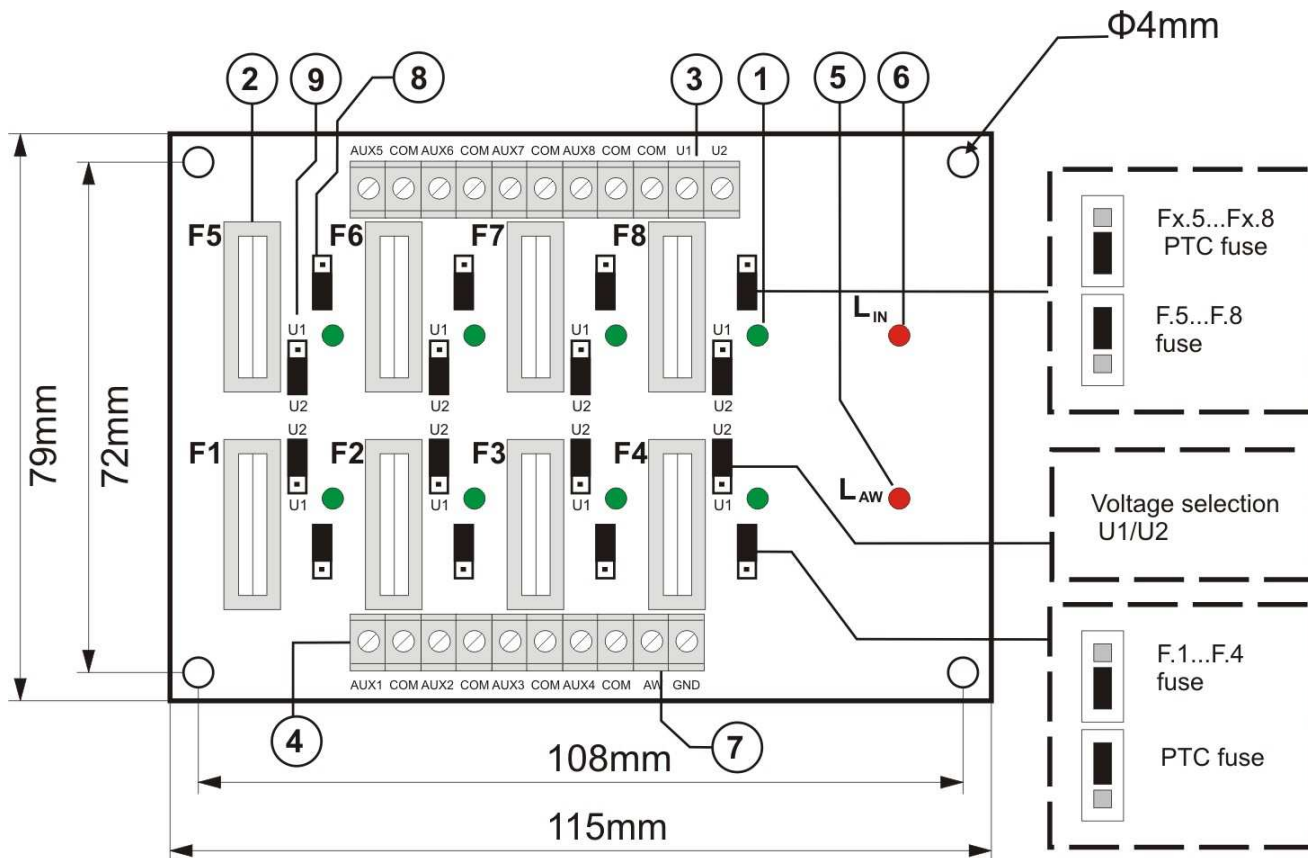
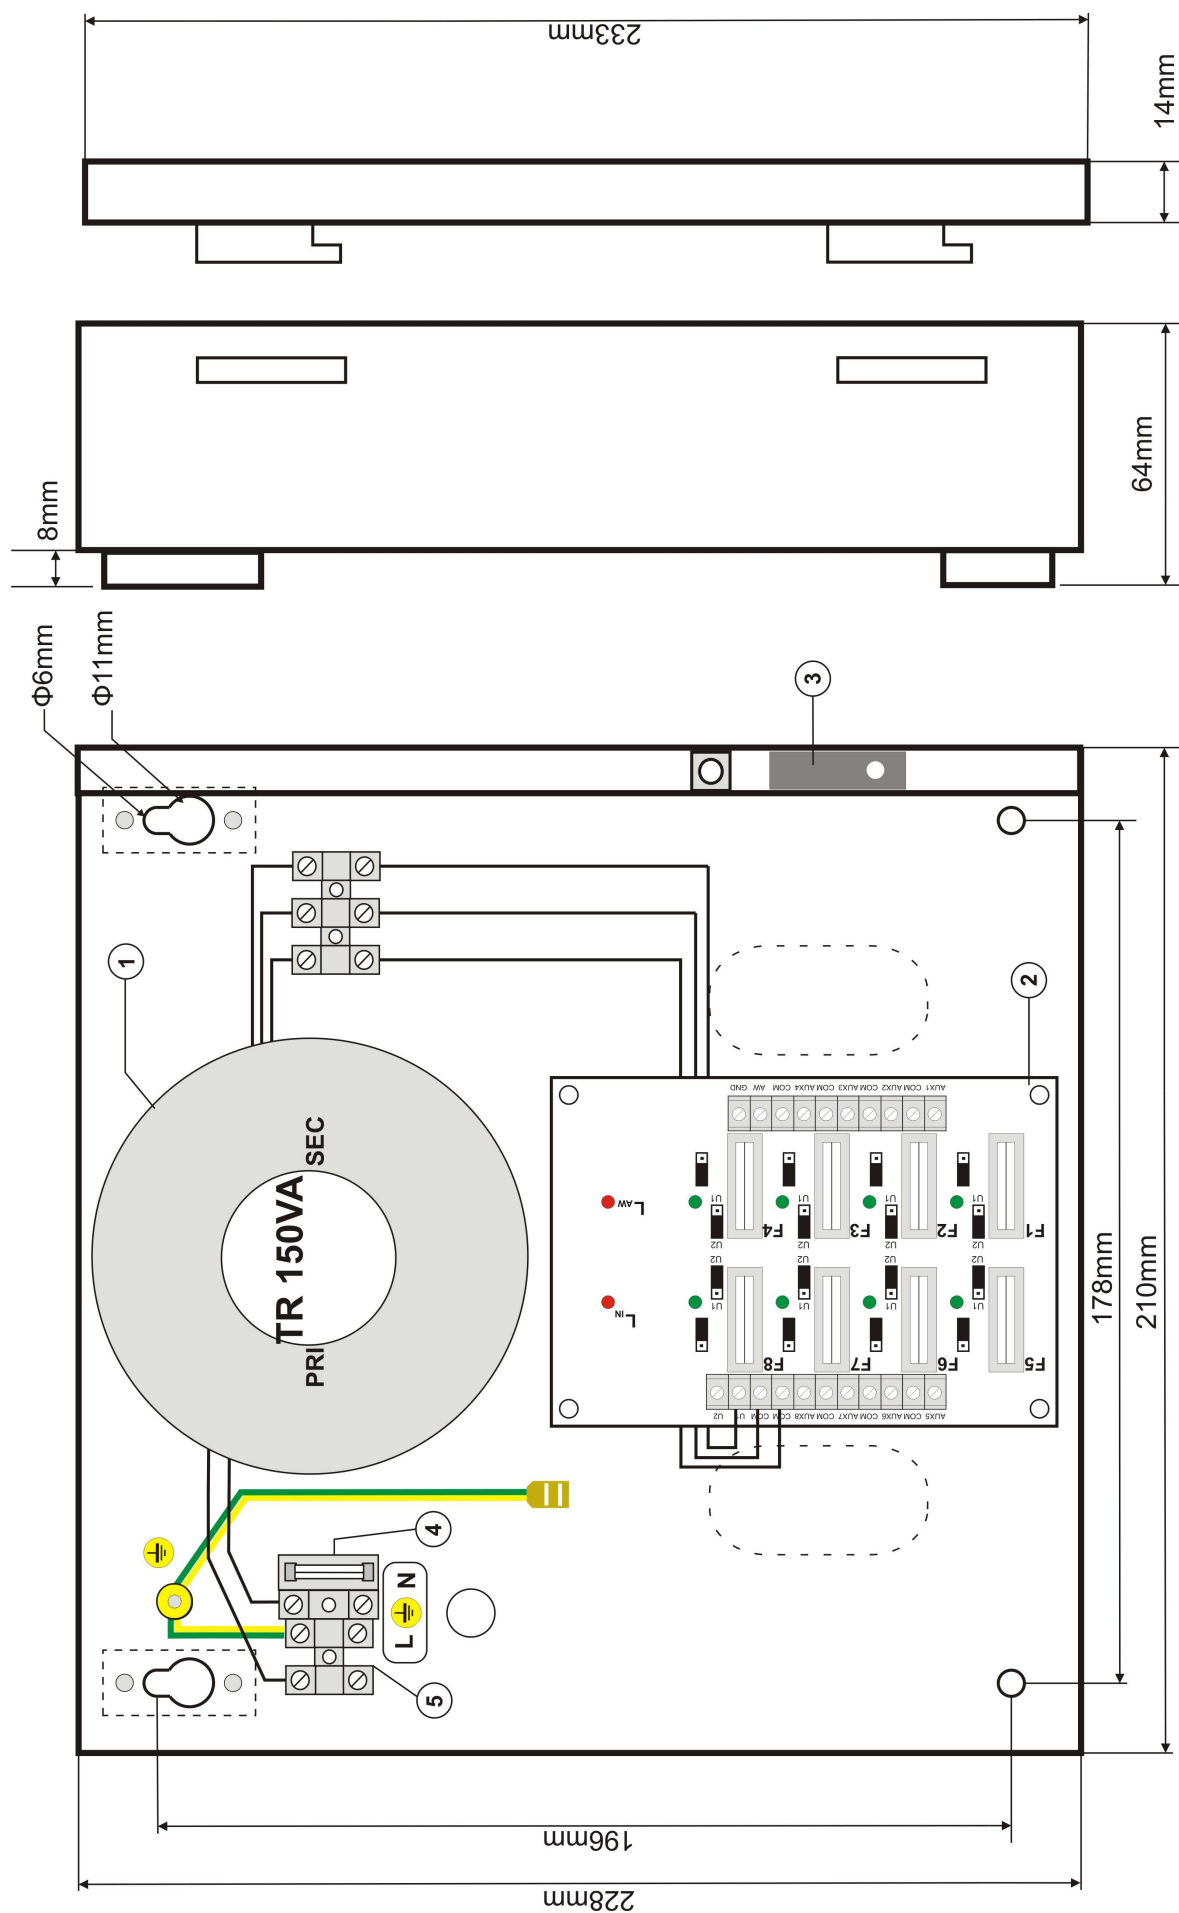

Fig.2. View of the LB8/24/27/AW fuse block.
Fig.4. View of the power supply.
1.3. Description of elements and connectors of the power supply (table 1, table 2, fig.2, fig.4).
Element No. [Fig. 2]	Description of LB8/24V/27V/AW elements
Element No. [Fig. 4]	Description of power supply elements